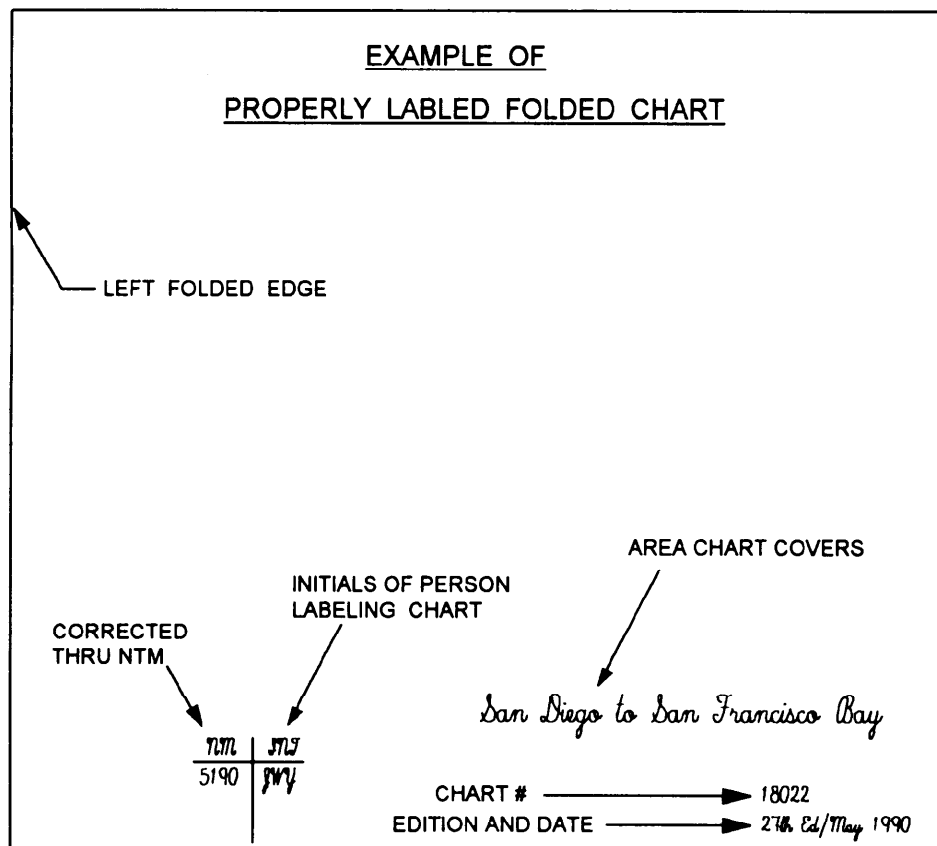

Figure 1-23. Properly folded chart.
**Ordering Charts** The ordering of charts is now primarily accomplished with the help of a personal computer (PC). With the growth of computer technology, DMAHTC has written the *GETAMAP* program to aid in the ordering of charts. Complete step by step ordering procedures are contained in DMAHTC publication 1-N.
**Labelling and Stowing Charts** All charts have labelling requirements. To properly label each chart you must first fold it correctly. Start with the chart laying flat with the printed side facing up. Now fold the left side to the right side, turn the chart 90° and fold in half again. Refer to figure 1-23, note that the labelling includes a five-digit chart number, latest edition number and date, and the latest NTM that the chart is corrected through.